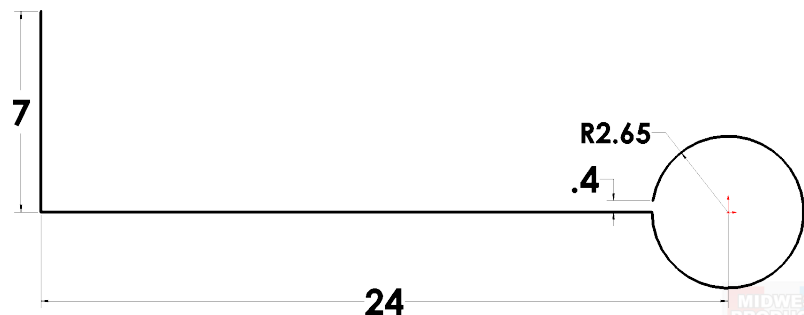

Fig. 5
Step 9. Click **Smart Dimension**  (S) on the Sketch toolbar.
Step 10. Dimension arc gap **.4**, the lines **24** and **7**, **Fig. 5**.